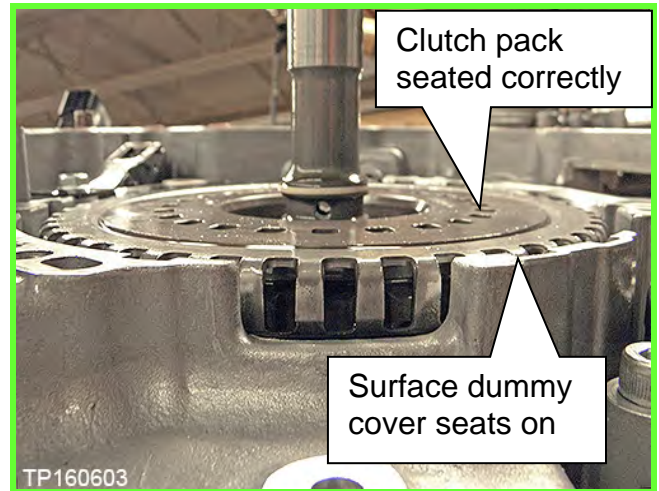

Figure 1M
- Figure 1M shows clutch pack fully seated.